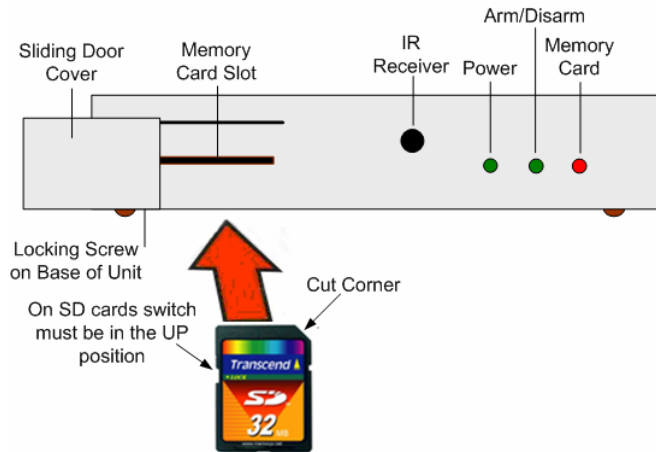

Figure 1 Inserting the Memory card - Front View
If the cover is locked, loosen the cover locking screw on the base of the unit, shown in Figure 1 below.
2. Insert the Memory card into the slot with the cut corner on the right-hand side, as shown in Figure 1.